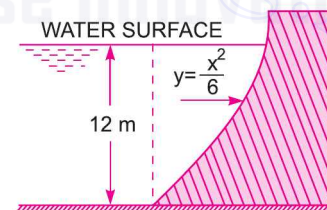

Fig. 3.61
22. Find the magnitude and direction of the resultant water pressure acting on a curved face of a dam which is shaped according to the relation  $y = \frac{x^2}{6}$  as shown in Fig. 3.61. The height of water retained by the dam is 12 m. Take the width of dam as unity. [Ans.  $970.74 \text{ kN}$ ,  $\theta = 43^\circ 19'$ ]